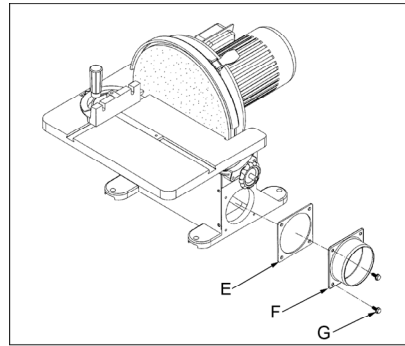

Fig 3
Place the gasket (E, Fig 3) and mount the dust port (F) to the sander with four M6x16 hex cap bolts (G).